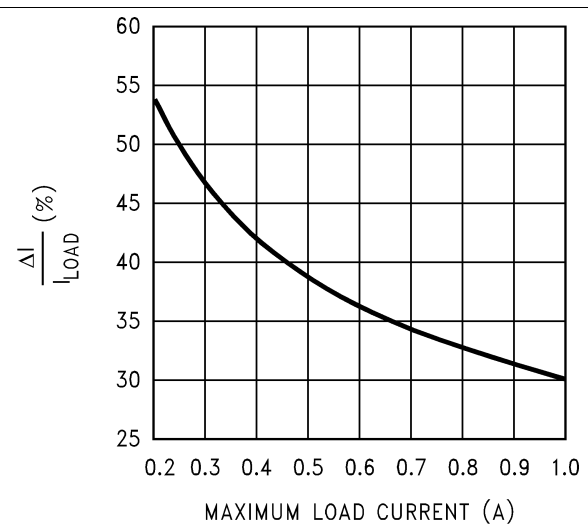

Figure 36. Current Ripple Ratio
4. The nomographs were generated by allowing a greater amount of percentage current ripple in the Inductor as the maximum rated load decreases (see Figure 36). This was done to permit the use of smaller inductors at light loads. However, Figure 36 shows only the *median* value of the current ripple. In reality there may be a great spread around this because the nomographs approximate the exact calculated inductance to standard available values. Refer to AN-1197 Selecting Inductors for Buck Converters (SNVA038) for detailed calculations if a certain maximum inductor current ripple is required for various possible reasons. Also consider the rather wide tolerance on the nominal inductance of commercial inductors.